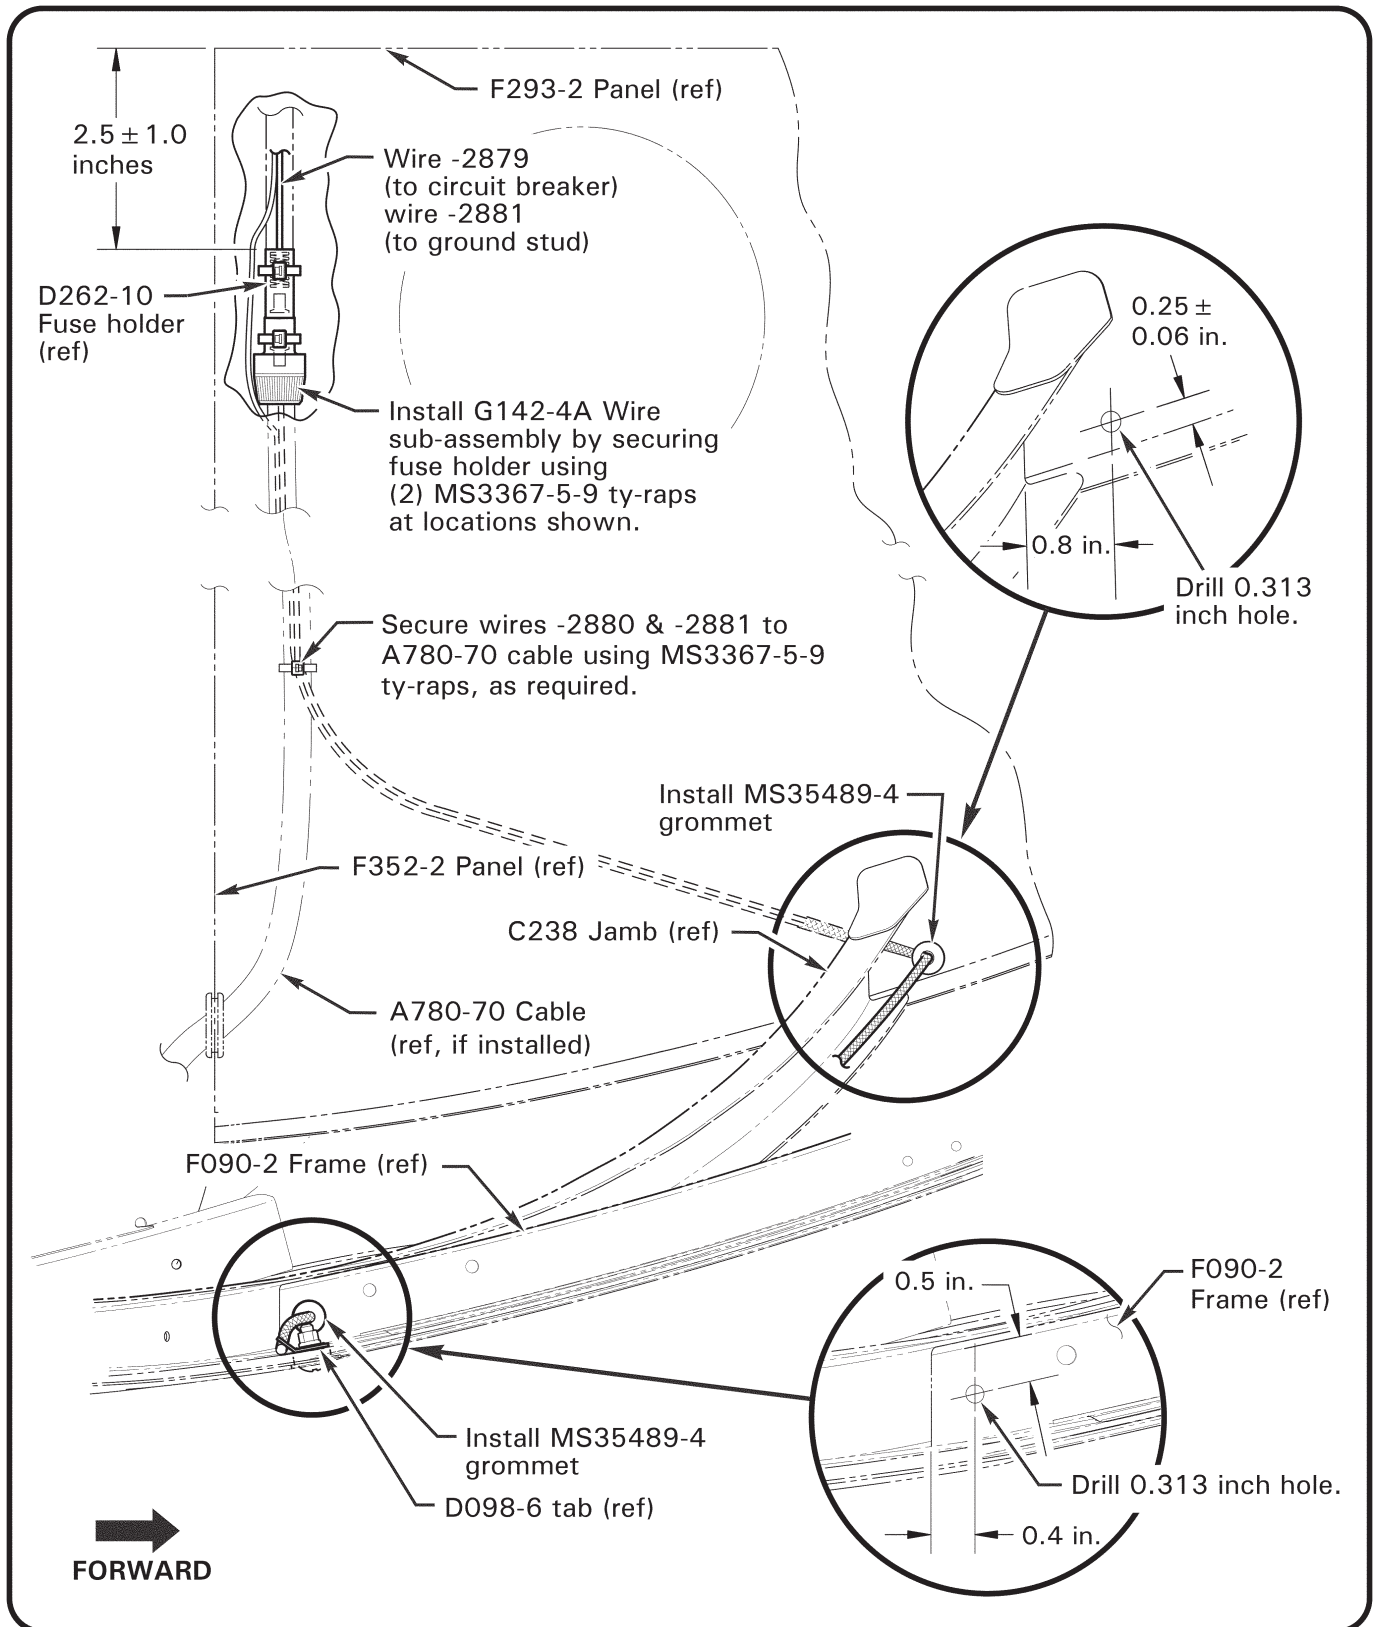

FIGURE 2
8. Refer to Figure 2. Locate and drill 0.313-inch (5/16-inch) hole thru F090-2 frame (ref. IPC Figure 52-17), and 0.313-inch hole thru floor. Deburr holes and clean up debris. Install MS35489-4 grommet in each hole.
9. Position G142-4A wire sub-assembly at location shown, ensuring wire (-2879) is routed towards F293-2 panel. Secure D262-10 fuse holder to A780-70 cable using (2) MS3367-5-9 ty-raps. Cinch ty-raps until snug without overtightening and trim tips flush with heads.
12. Refer to Figure 2. Route wire -2881 past D262-10 fuse holder and adjacent wire (-2880) (from fuse holder) outboard and forward, up through MS35489-4 grommet in floor. Secure wires to A780-70 cable (if installed) using MS3367-5-9 ty-raps as required. Verify wires are secure and have sufficient slack to droop slightly beneath floor.